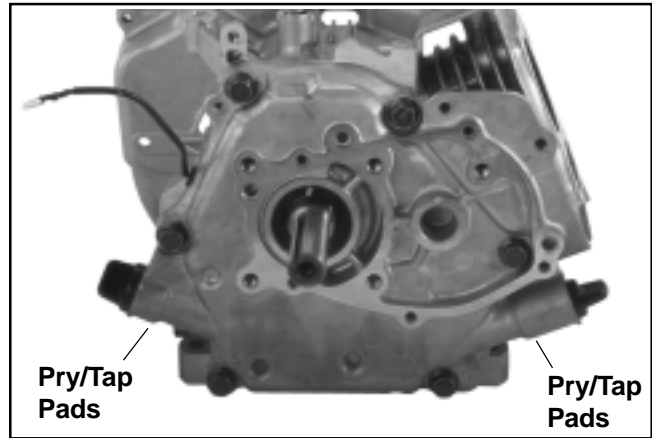

Figure 9-74. CS4, CS6 Closure Plate Mounting Screws.
- Remove the hex. flange screws securing the closure plate to the crankcase (six on CS4 and CS6; eight on CS8.5-CS12). See Figures 9-74 and 9-75.
- Locate the pry/tap pads on the closure plate. See Figures 9-74 and 9-75. These areas permit separation of the closure plate from the crankcase with a flat screwdriver or by tapping lightly with a plastic hammer.